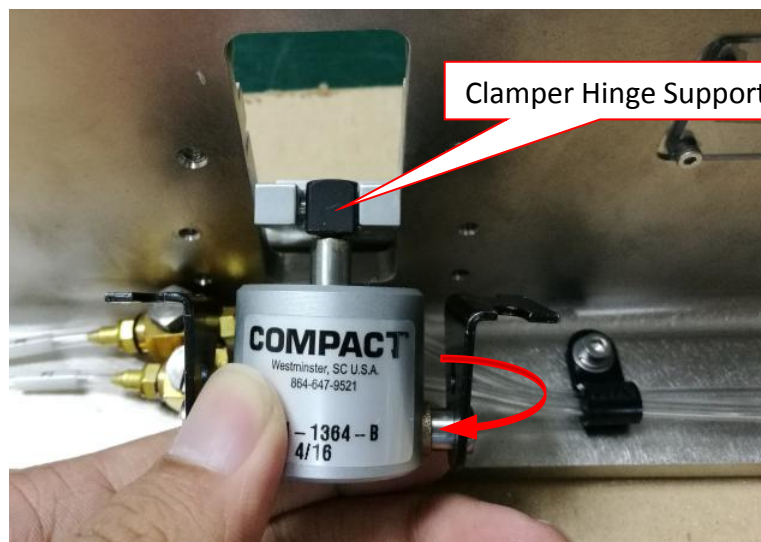

Figure 12 Clamper Cylinder Replacement
1. Assemble New Clamper Cylinder into Clamper Hinge Support as shown in Figure 12.